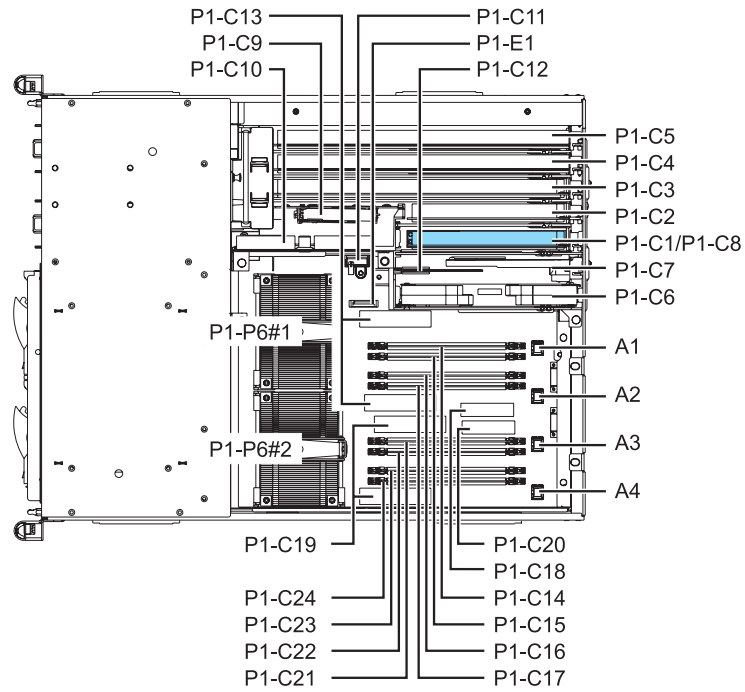
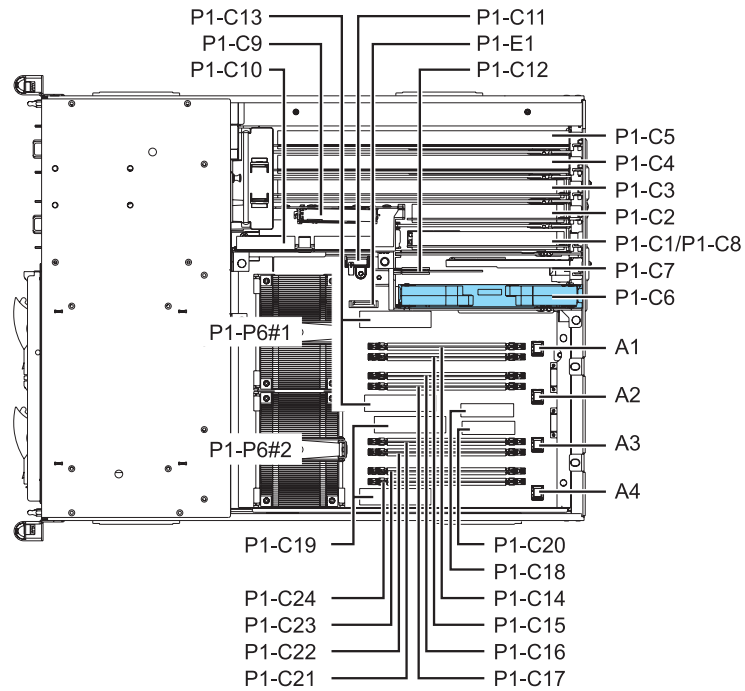

Figure 2. Top view of slot P1-C1/P1-C8 in model 8203-E4A, 8261-E4S, or 9408-M25
Figure 3. Top view of slot P1-C6 in model 8203-E4A, 8261-E4S, or 9408-M25
- For model 8203-E4A, 8261-E4S, or 9408-M25 with processor feature code 5634, choose slot P1-C8 as shown in Figure 2 on page 9.
Note: If you are unsure about which processor feature you have, look at your system and refer to Figure 2 on page 9. If a processor is located in P1-P6#1 only, you have processor feature 5634. If processors are located in both P1-P6#1 and P1-P6#2, you have processor feature 5635.
- For model 8203-E4A or , 8261-E4S with processor feature code 5635, choose slot P1-C6 for the first adapter as shown in Figure 3 on page 9. If you are installing a second adapter, choose slot P1-C1/P1-C8 as shown in Figure 2 on page 9.
Note: Some adapters may be removed using the same instructions as seen in Figure 2.
Note: Some adapters may be seated with the same instructions as seen in Figure 2.